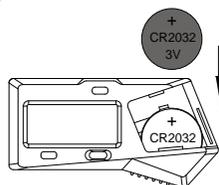

fig.2
---Put CR2032 battery into battery house, the positive side of battery (+) should face out (fig.2)